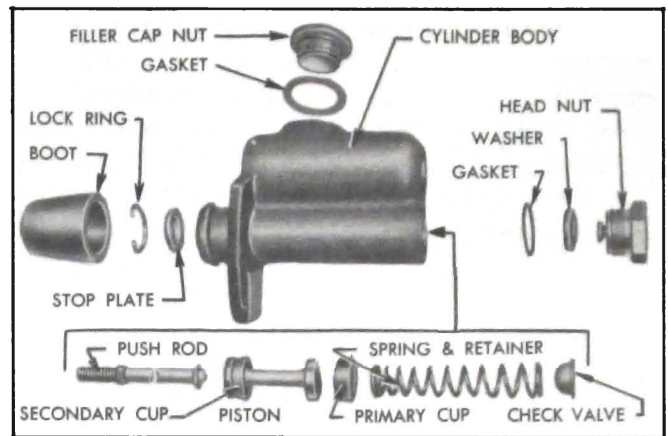

Figure 9-12—Master Cylinder—Disassembled
3. Remove filler cap nut and drain all fluid from master cylinder. Remove head nut, check valve and spring. Turn the boot back, remove lock ring, then remove push rod, stop plate, piston, and primary cup. See figure 9-12.
boot. Dip internal parts in brake fluid, then install piston with secondary cup, primary cup, spring with its retainer against primary cup, check valve, and head nut with rubber valve seat washer and nut gasket. Tighten head nut securely. See figure 9-12.